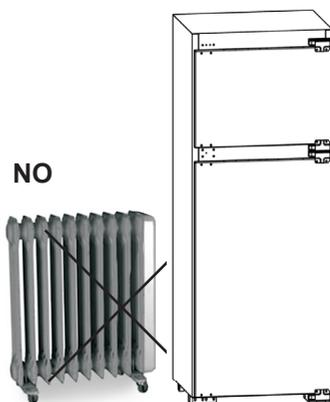

Fig.6
* Place the refrigerator away from heat sources (such as radiators and ovens (Fig.6)).